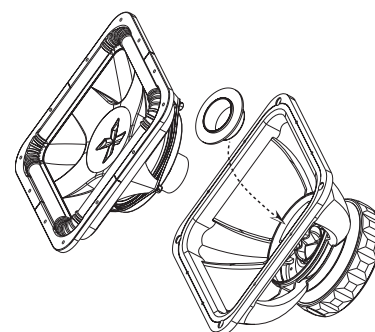

Fig.3
3. Install the Gap Cap into the BAM around the pole-piece to protect the motor assembly from debris while you are installing the woofer. *If any metal shavings were to fall into the gap, they would be impossible to remove! Please use the Gap Cap! If this were not important we would have taken the money we spent to design and produce them and bought a spa for the tech bay! So use the cap !* Fig.3